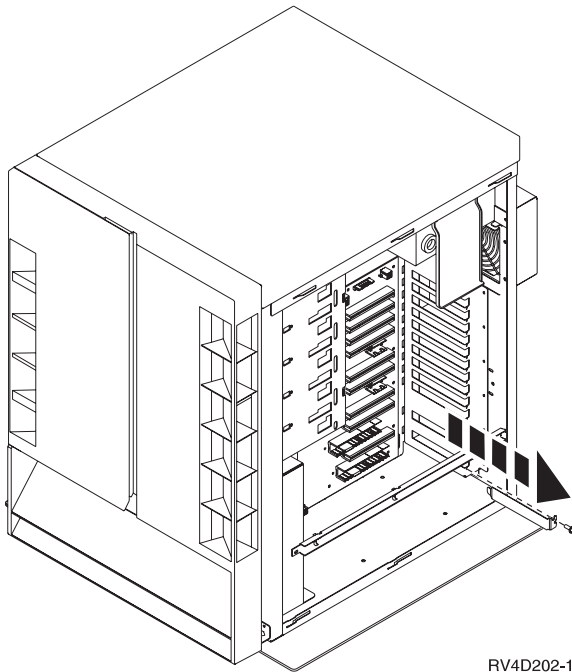

Figure 5. Remove Slot Cover
- a. Remove the screw, (Figure 5 on page 6).